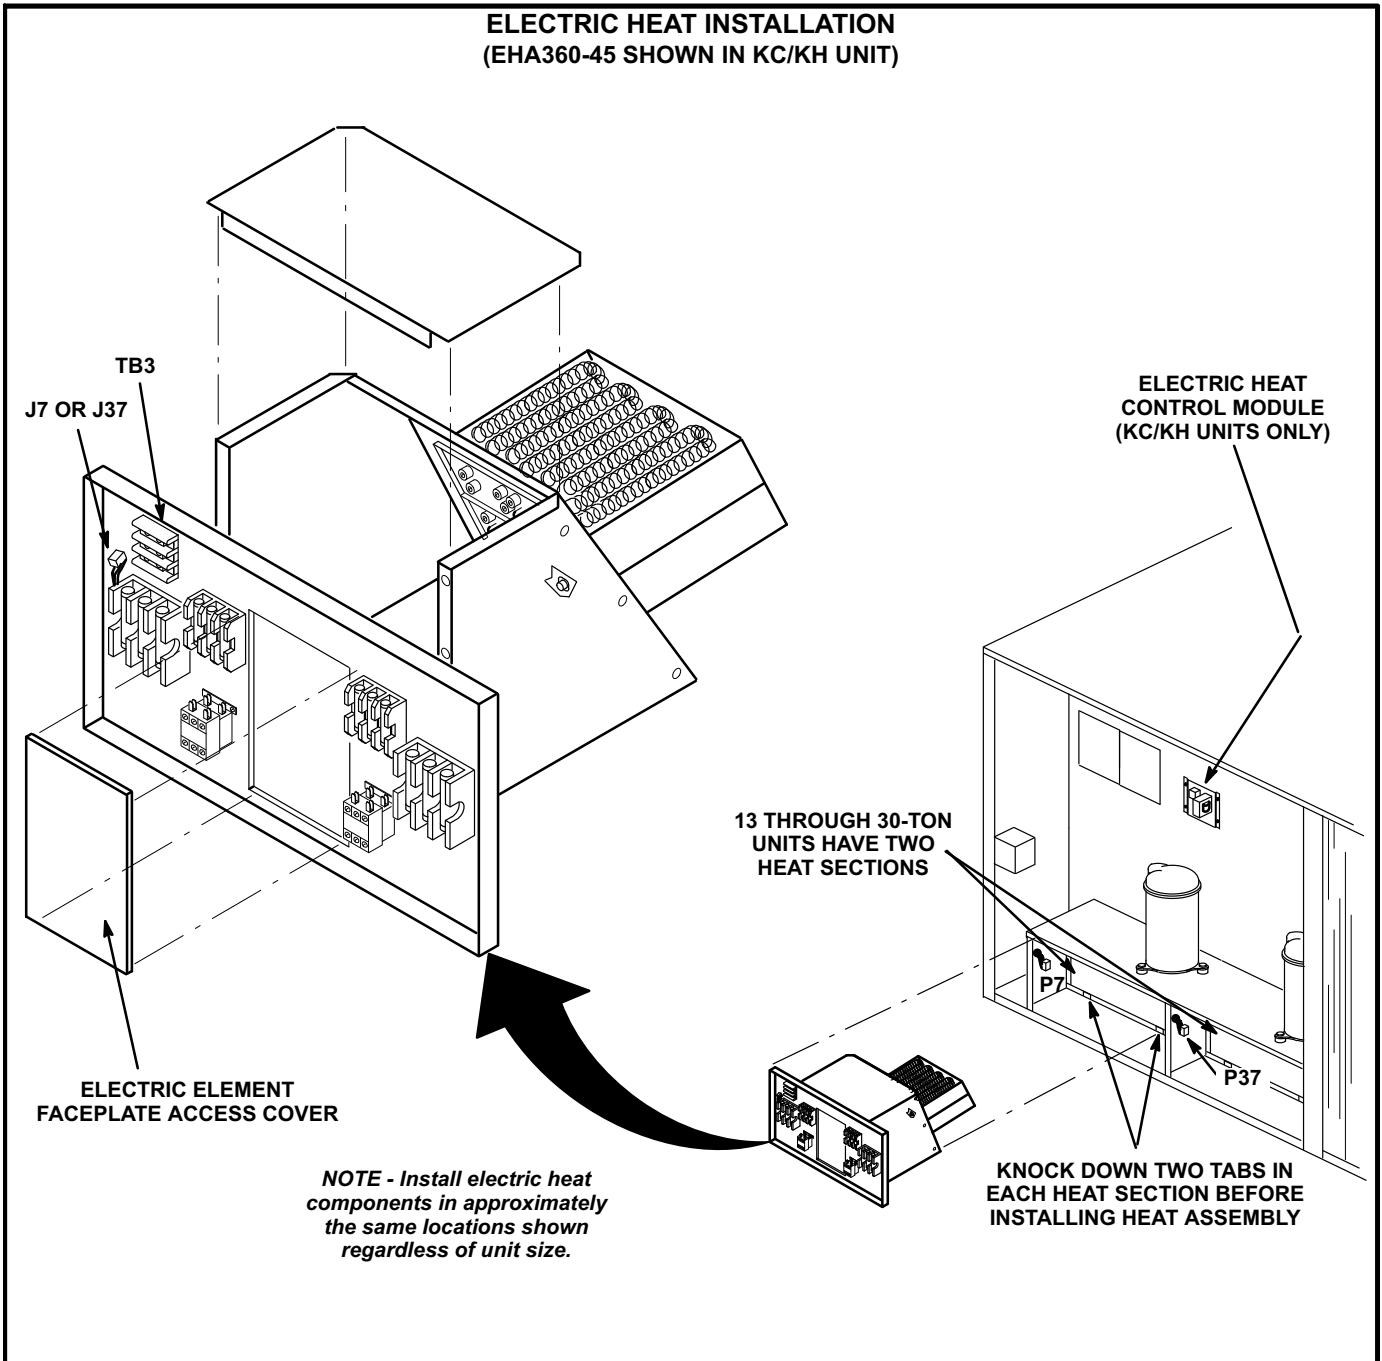

FIGURE 1
Knock down two tabs in unit heat sections. See figure 1.
- 4- Insert electric element heat assembly into rectangular vestibule opening and secure assembly using screws provided. See figure 1.